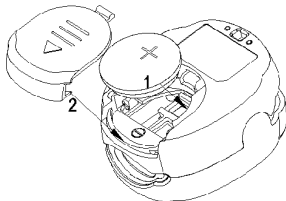

Figure 2
1. Insert the coin cell into the battery compartment properly in the right direction (as shown in Figure 2).